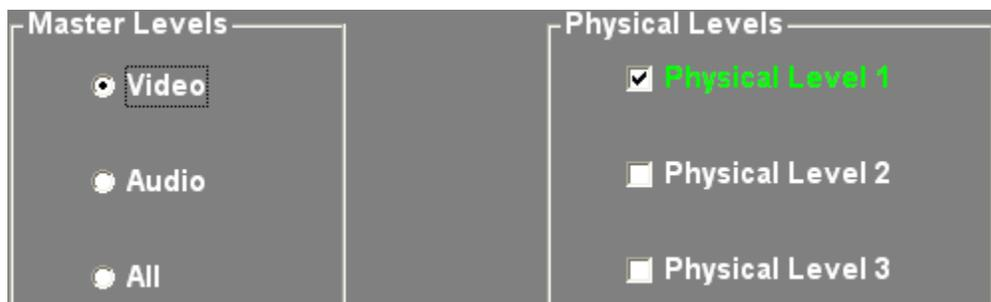

FIGURE 70: Master and Physical Levels Selections
- 10) Check marks will be displayed for any Physical Levels that belong to the first Master Level. Check only Physical Level 1 and uncheck all other levels (see Figure 70).